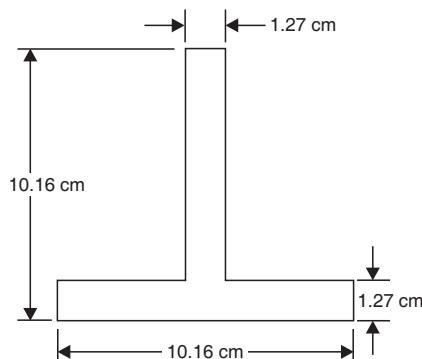

Fig. 8.34
3. Determine the moment of inertia of a T-section (as shown in Fig. 8.34)  $10.16 \times 10.16 \times 1.27 \text{ cm}$  about an axis passing through the centre of the section and perpendicular to the stem or vertical leg.